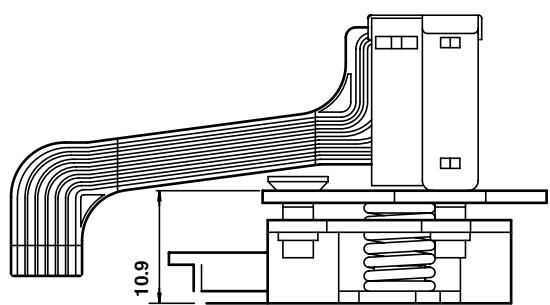

Fig. C-5-1
- 1) Adjust the A/C Head Base Assembly as shown Fig. C-5-1 by using the Height Adjustment Screw (B).